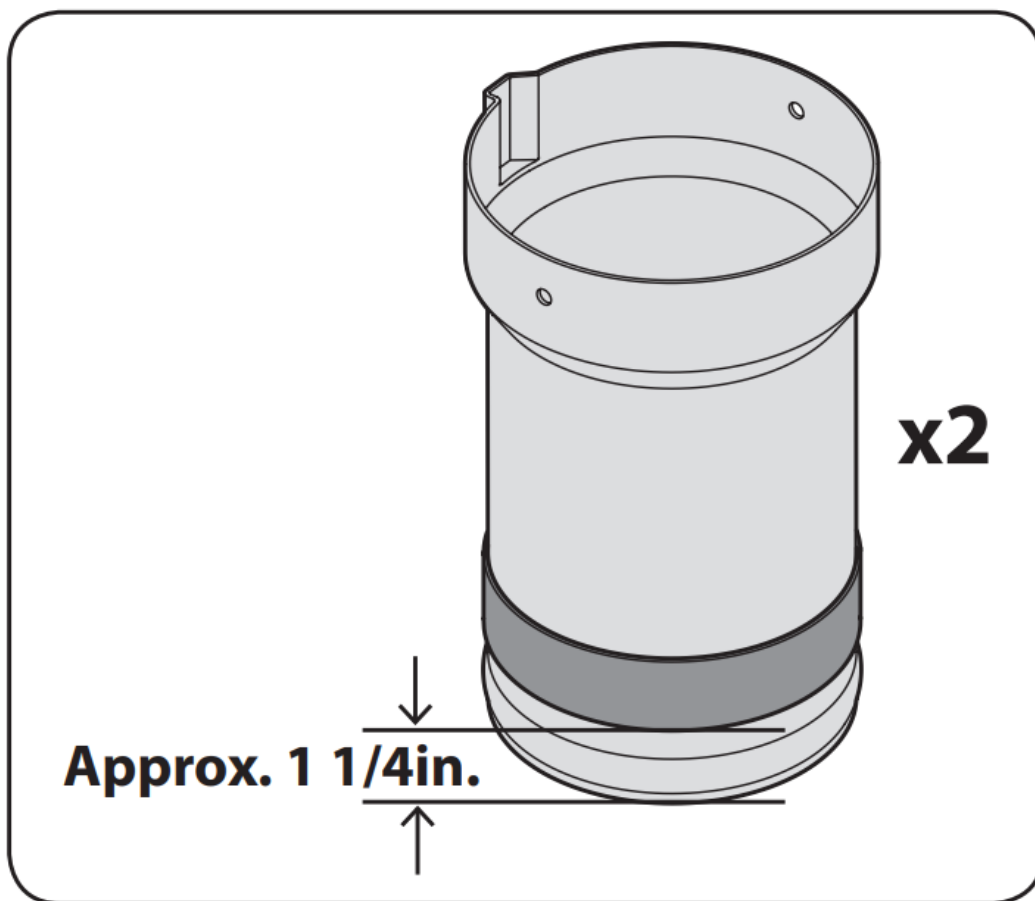

Figure 4-15
3. Apply a wide adhesive rubber strip, included in hardware pack 689-00342, onto the chute extension tube, approximately 1.25 inches from the narrow end of the extension tube, which should be approximately a quarter inch above the bead on the narrow end of the extension tube, as shown in Figure 4-15.